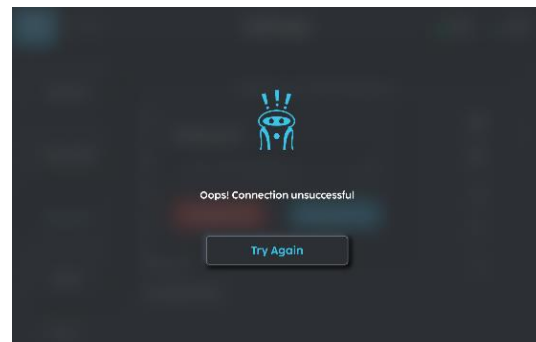

FIGURE 6-7
3. Should the screen show fail to connect (Fig 6-7), check your network configuration and settings and try again. Otherwise contact your network administrator.